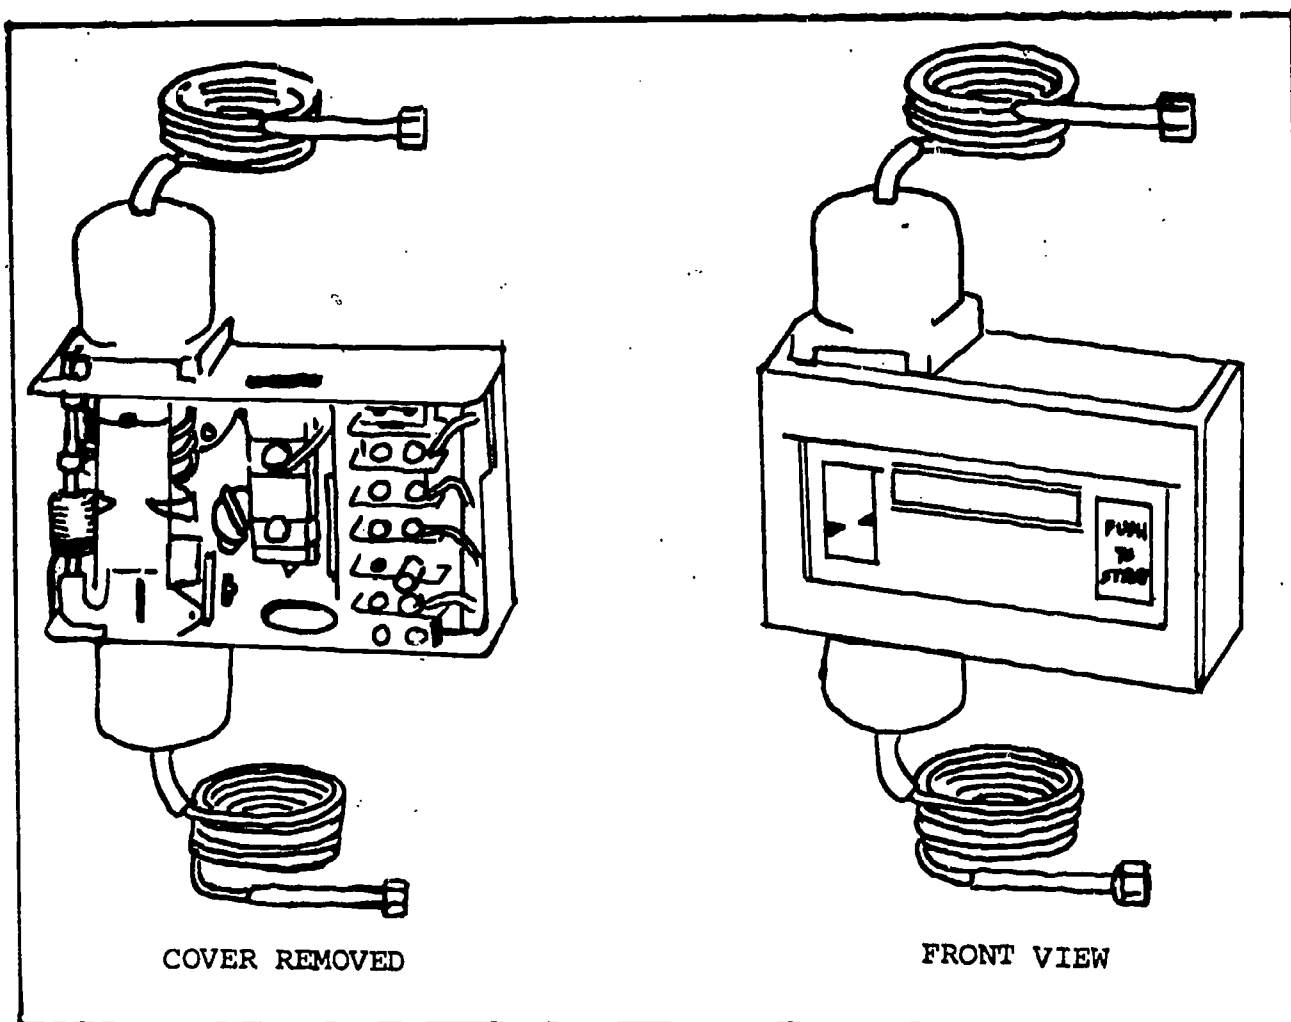

Fig 2-28. Oil-failure cutout switch.
- (4) Oil-failure cutout switch (fig 2-28). An oil-failure cutout is a time delay differential type control that is used to stop operation of a pressure-lubricated compressor whenever the oil pressure drops below a safe limit. An oil-failure cutout operates on the difference between the pressure of the refrigerant in the suction or low side of the system and the oil pump discharge. The difference between these pressures is known as the usable oil pressure. To measure this usable oil pressure and guard against oil failure, an oil-failure cutout uses two bellows which oppose each other. The suction pressure on one bellows and the oil discharge on the other.